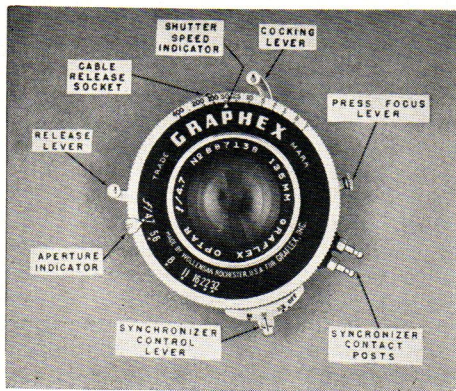
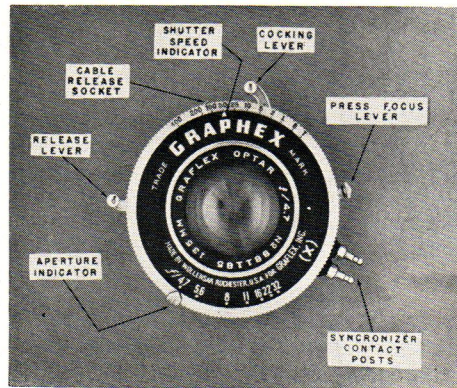

Fig. 42 Fully Synchronized Graphex Shutter
Fig. 43 Graphex (X) Shutter
Graphex Shutters: The Graphex Shutters are precision built, high-speed between-the-lens (front) shutters designed for accurate control of exposure over a wide range of speeds. The No. 1 and No. 2 shutters have a speed range of from one second to 1/400th, whereas the larger No. 3 shutters have a speed range of from one second to 1/200th. All have Time and Bulb settings. Graphex fully synchronized shutters have built in contacts with an adjustable delay mechanism for firing Class F, Class M flash lamps and the Class X high speed electronic flash units (fig. 42). Graphex (X) shutters have built in contacts which provide for a zero delay and are synchronized only for firing the Class X high speed electronic flash units (fig. 43). All Graphic shutters may be solenoid operated for synchronizing Type M lamps at all speeds.